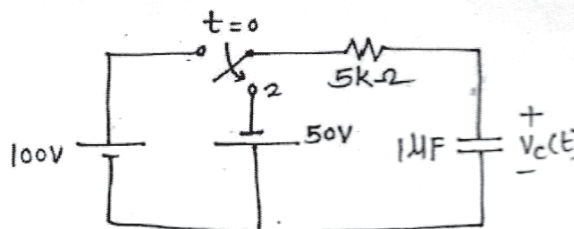

Fig. 4
c) The switch in the circuit shown in Fig. 4 is moved from position 1 to 2 at $t = 0$. Find expression for $V_c(t)$ for $t > 0$. [6]